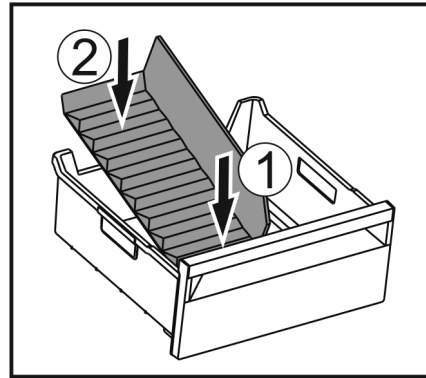

Fig. 166
- ▶ Insert the front part of the ice compartment divider. Fig. 166 (1)
- ▶ Lower the rear part of the ice compartment divider to the drawer bottom. Fig. 166 (2)